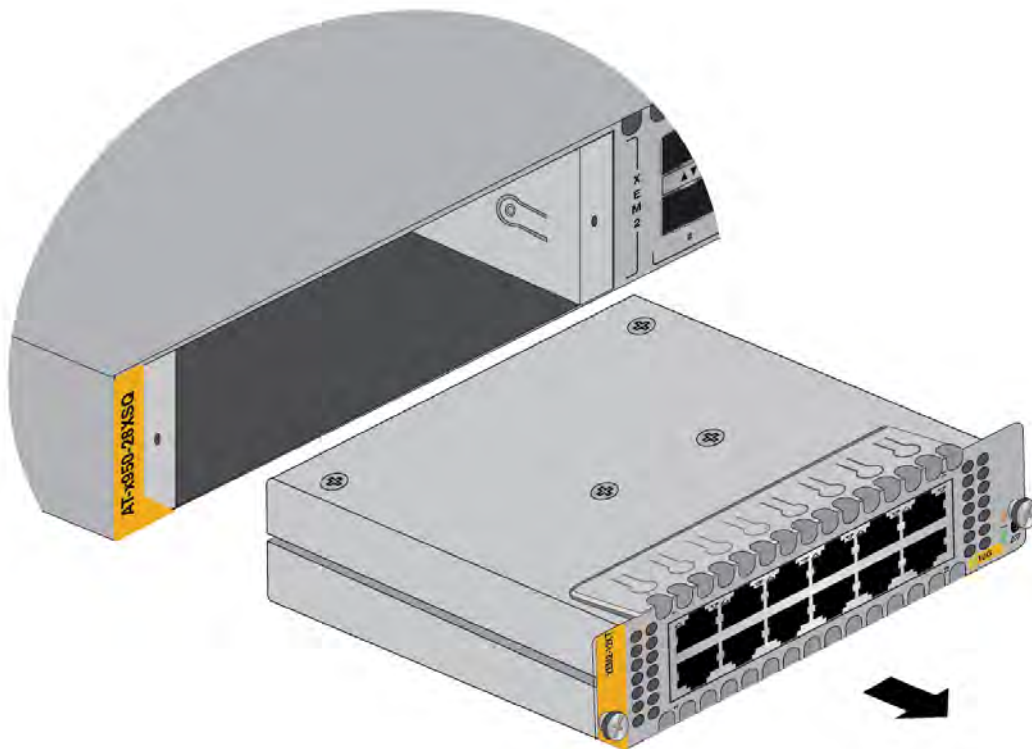

Figure 125. Sliding an Ethernet Line Card from the Switch
6. Carefully slide the card from the switch. Refer to Figure 125.